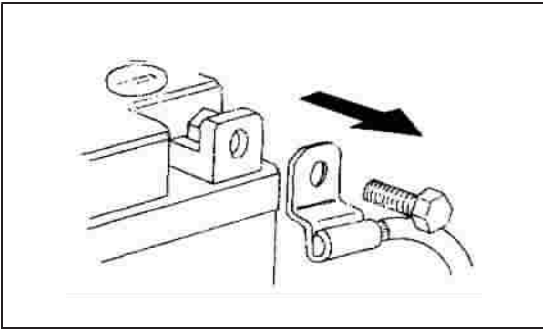

Fig.7.1 Removal of negative pole wire of battery
7.3 When repairing wire on electric parts, first remove the wire on the terminal of negative pole of battery (see fig.7.1). When tightening or loosening bolt of terminal of big capacity battery, don't let the wrench contact with engine or other metal parts of vehicle body to avoid the electric shock. shock.